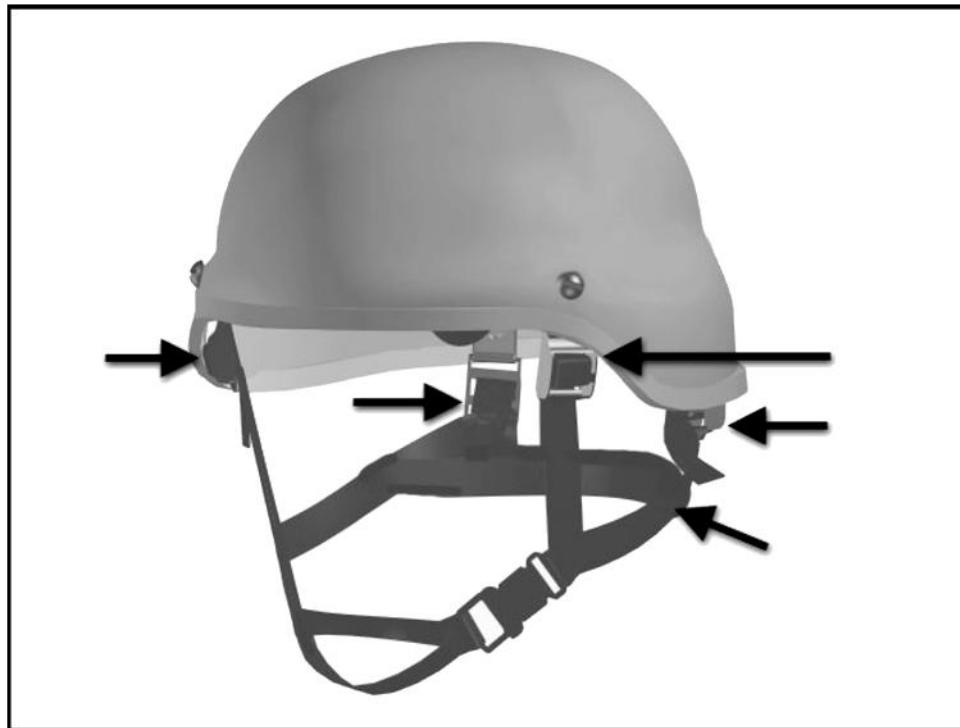

Figure 2-15. ACH adjustable straps.
- (1) **Step 1.** Before donning the helmet, loosen all adjustment straps (two in front, two in back, one on nape of neck) (Figure 2-15).